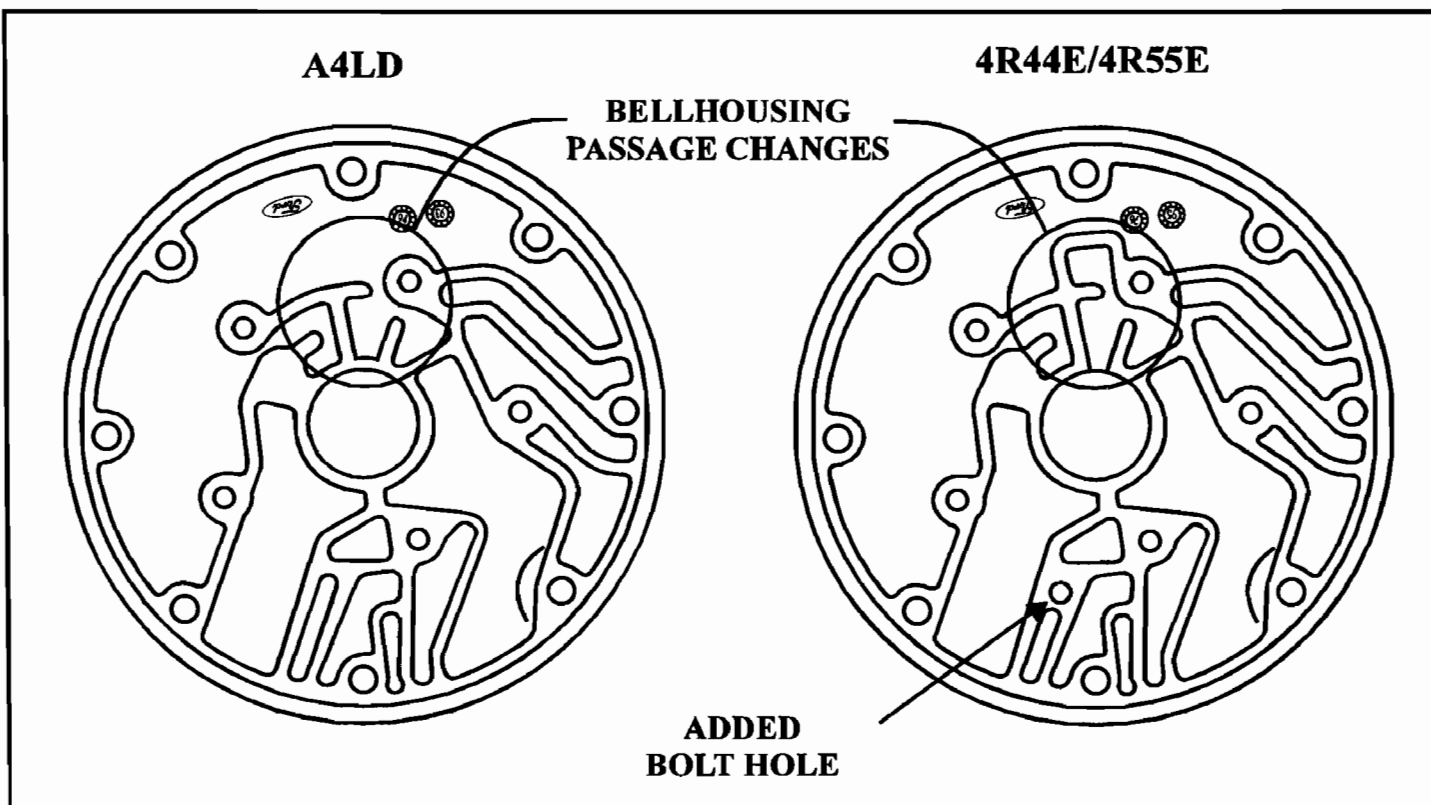

Figure 4
- (4) **BELLHOUSING** - The 4R44E/4R55E bellhousing has an added passage to accommodate the pump body changes for increased lubrication to the converter hub bushing, as shown in Figure 4.